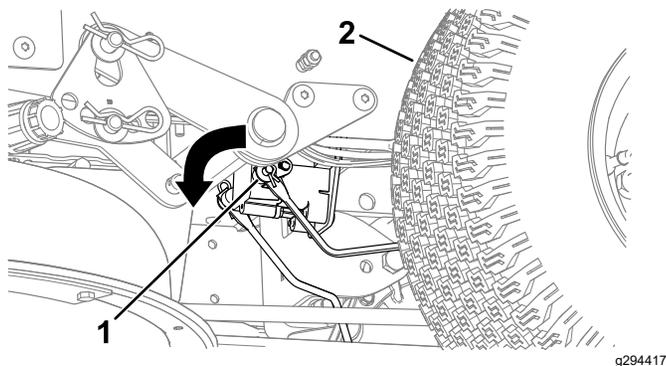

Figure 54
4. Locate the shaft on the electric brake where the brake link arms are connected (Figure 54).
5. Rotate the shaft forward to release the brake as shown in Figure 54.